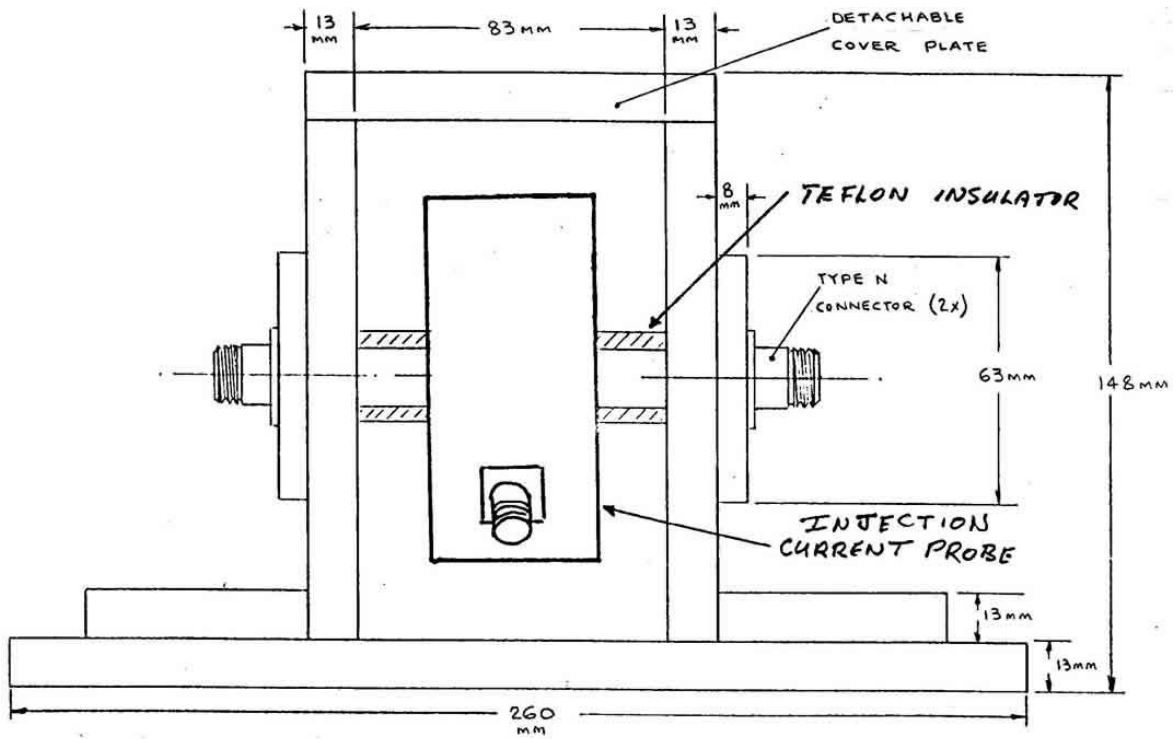

Figure 1
A mechanical outline of the fixture and a typical injection probe mounted in the fixture is shown in Figure 1. This fixture is useable over the frequency range of 10 kHz to 400 MHz.
**Assume that the frequency of interest is 80 KHz and we need to find the current at this frequency. Connect the probe per figure 1**